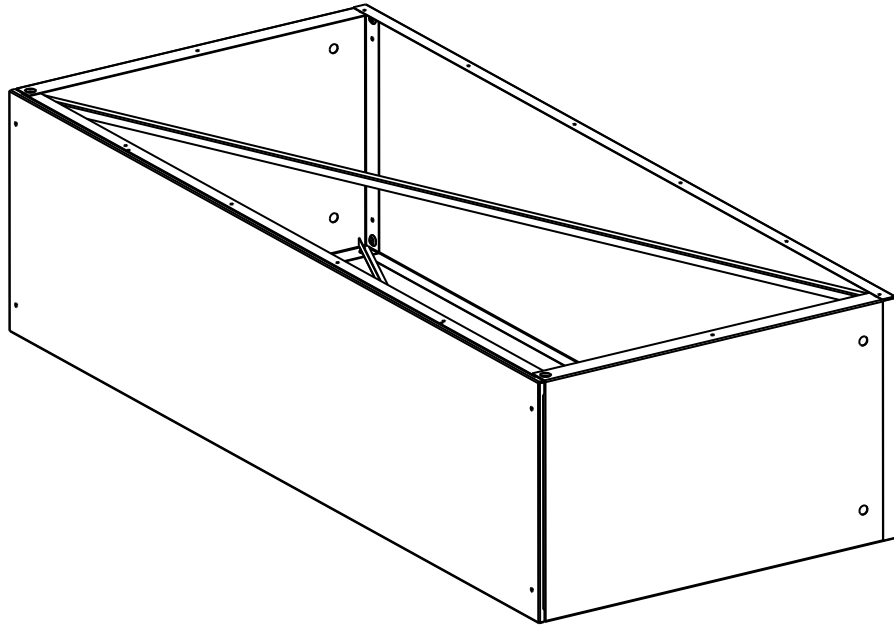

FIGURE 4 - BASE ACCESSORY MODEL 1BS0404
Assemble this accessory per Figures 4, 5 and the following instructions.
4. Position angle support as seen in Figures 4 and 5, and secure with two #10 self tapping screws from the top of the base.
- NOTE:** Recheck Figures 4 and 5 for the proper orientation of the two base angles and the support brace.